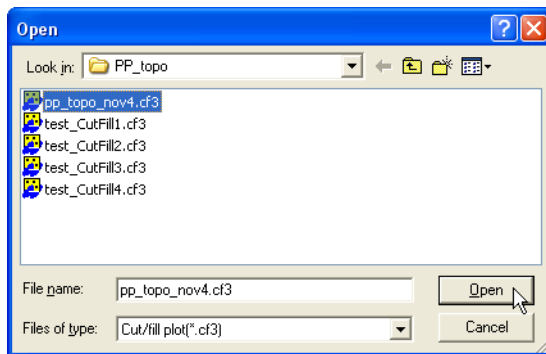

Figure 10-1. Open Cut/fill File
2. On the **Open** dialog box, navigate to the location of the file, select the file type as Cut/fill plot (*.cf3), select the desired file, and click **Open** (Figure 10-1).